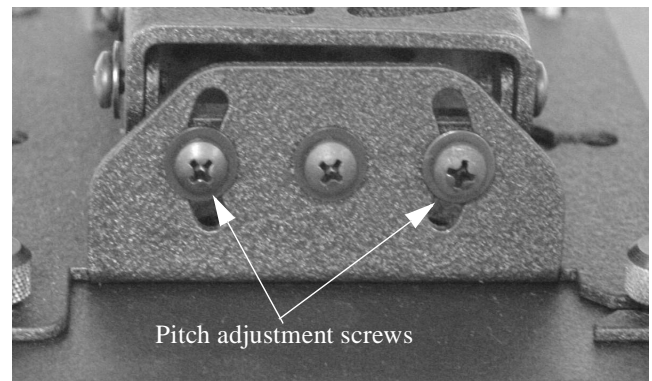

Figure 12. Pitch Adjustment
1. Loosen two 10-24X3/8" pitch adjustment screws located on each side of the adjustment plate (see Figure 12).